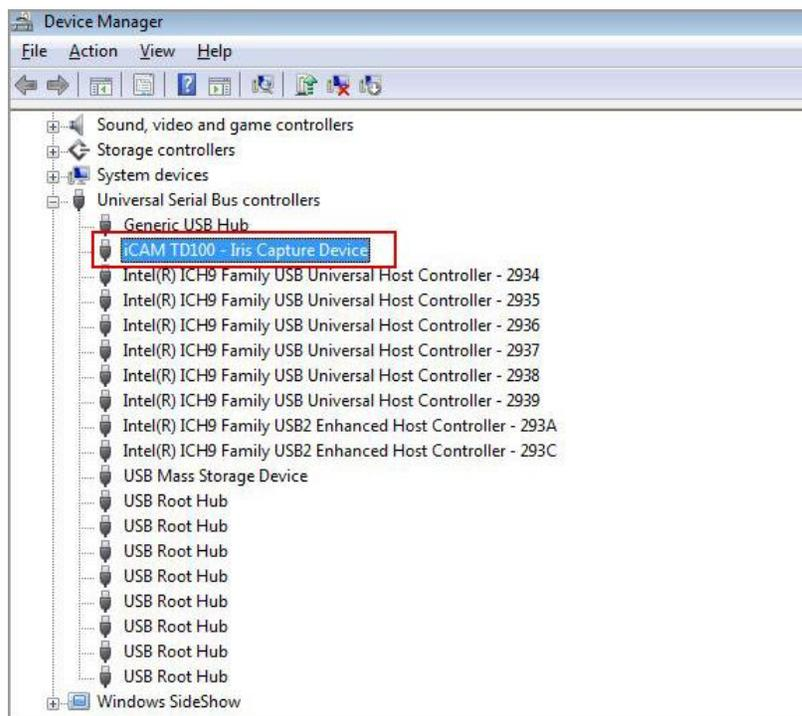

Fig. 1
3. Locate the Universal Serial Controllers section *while the iCAM TD100 is connected* to determine if the driver is installed successfully as shown in Fig. 1.